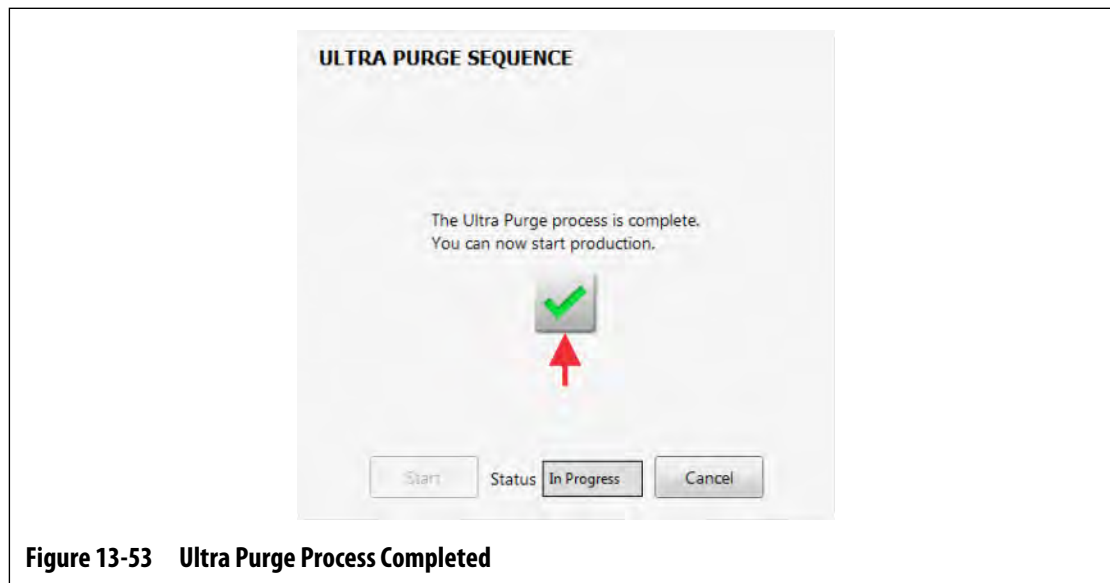

Figure 13-53 Ultra Purge Process Completed
- 23. Touch the green check mark button to complete the Ultra Purge process (Figure 13-53). You can start production with the new resin.